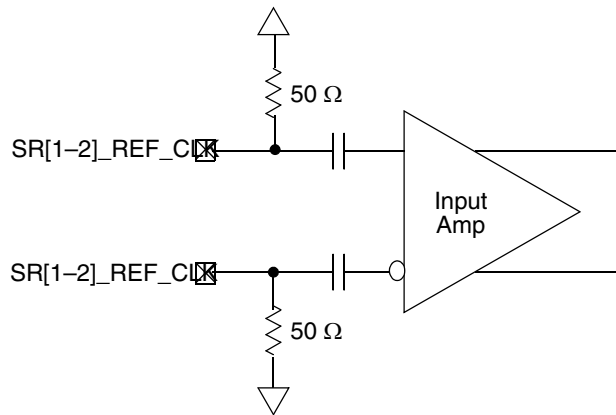

Figure 5. Receiver of SerDes Reference Clocks
The SerDes reference clock inputs are applied to an internal PLL whose output creates the clock used by the corresponding SerDes lanes. The SerDes reference clock inputs are $\text{SR1_REF_CLK}/\overline{\text{SR1_REF_CLK}}$ or $\text{SR2_REF_CLK}/\overline{\text{SR2_REF_CLK}}$. Figure 5 shows a receiver reference diagram of the SerDes reference clocks.
- The $\text{SR}[1-2]_{\text{REF_CLK}}$ and $\overline{\text{SR}[1-2]_{\text{REF_CLK}}}$ are internally AC-coupled differential inputs as shown in Figure 5. Each differential clock input ($\text{SR}[1-2]_{\text{REF_CLK}}$ or $\overline{\text{SR}[1-2]_{\text{REF_CLK}}}$) has on-chip 50- Ω termination to GND_{SXC} followed by on-chip AC-coupling.